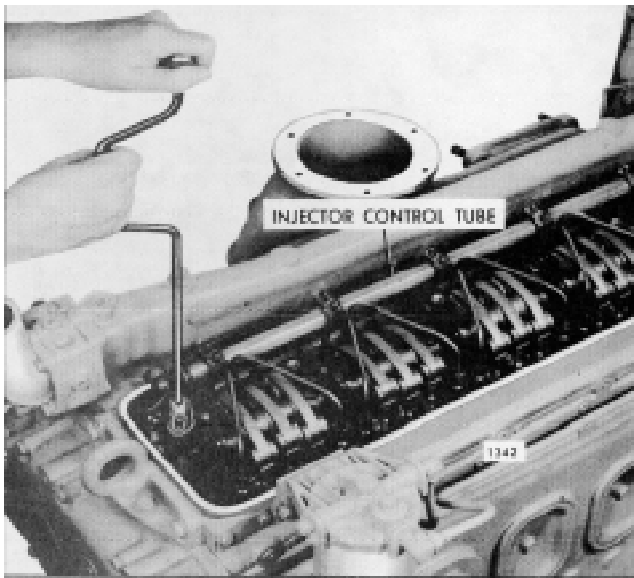

Fig. 7 - Removing or Installing Injector Control Tube
10. Remove the injector control tube (Fig. 7) and brackets as an assembly.